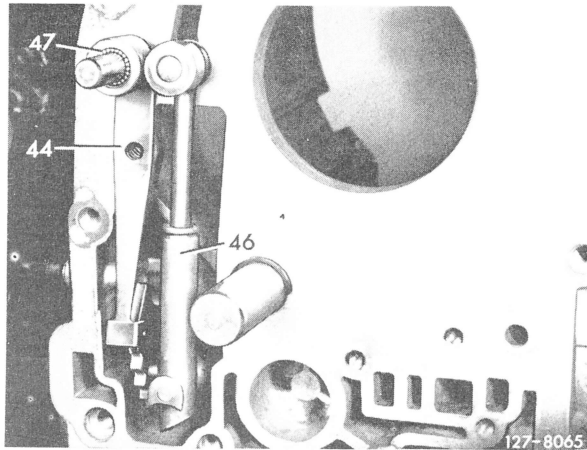

Fig. 35
**57** Plug-on leaf spring (44) and roller on needle bearing (47) (Fig. 35).